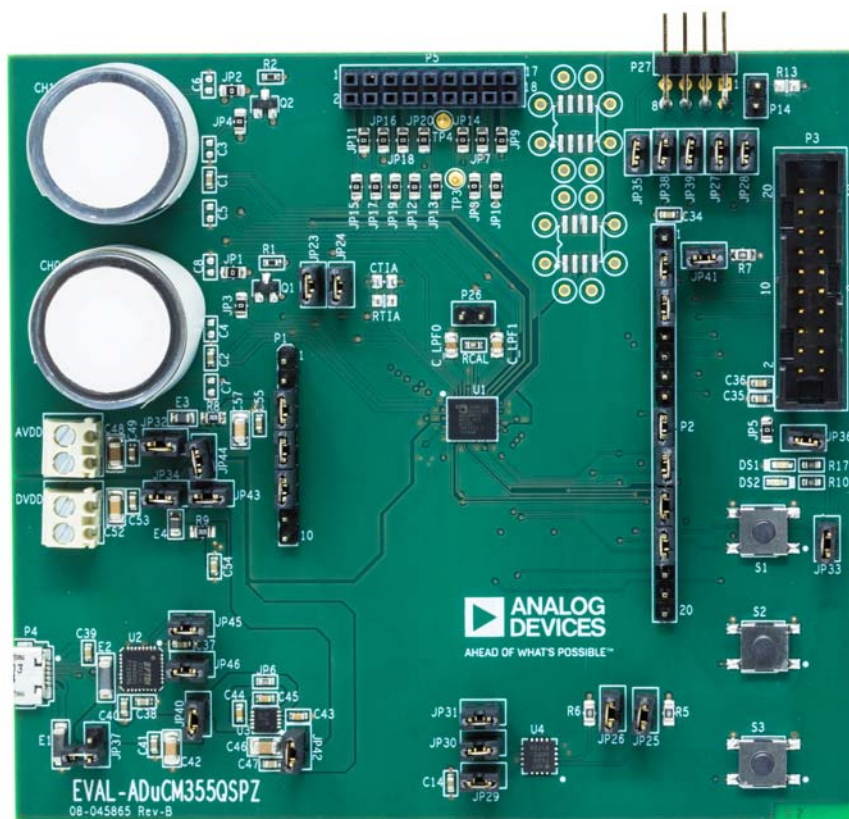

Figure 1.
- JP45 and JP46 connect the UART pins from the ADuCM355 to the UART-USB transceiver chip (U2) (see Figure 1 and Figure 2).
- JP40 connects the 5 V USB supply to the input of the LDO (U3) (see Figure 1, Figure 3, and Figure 4).
- JP42 connects the LDO output (3.3 V) to the board power supply filters (see Figure 1, Figure 3, and Figure 4).
- JP43 and JP44 connect the DVDD rail to filters for the AVDD_DD and AVDD analog supplies to the ADuCM355 (see Figure 1, Figure 3, and Figure 4).